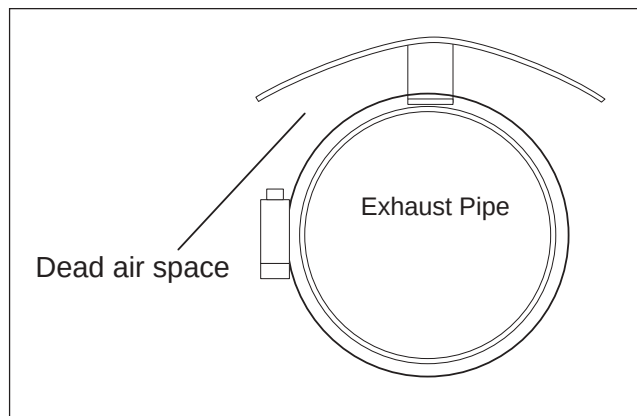

Figure 3
5. Bend the heat shield to form it around the tail pipe. Be sure to maintain a dead air space of $\frac{1}{2}$ "–1" between the tail pipe and the heat shield (Figure 3).